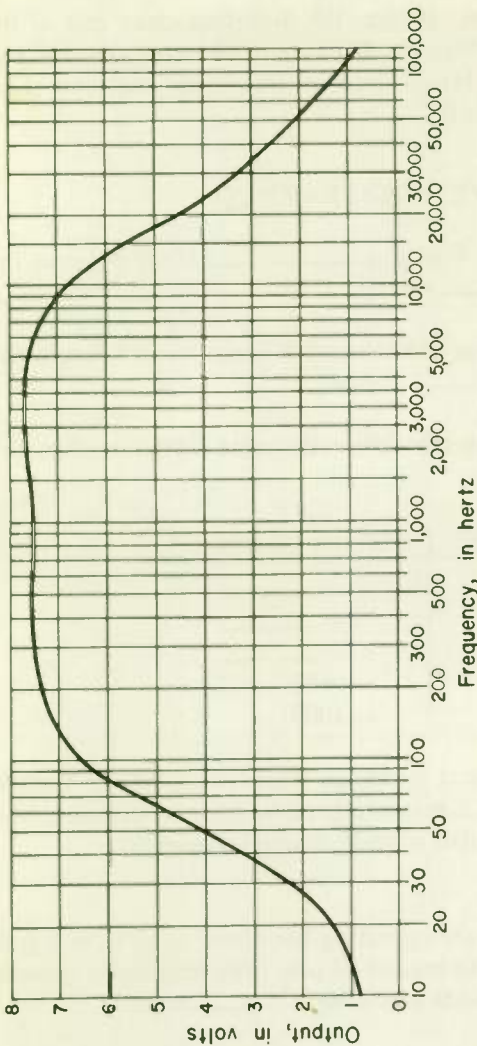

Fig. 10 Frequency response in a typical RC-coupled amplifier.
Figure 10, which shows the frequency response of an amplifier, is another example of a curve plotted on semilogarithmic graph paper. At low audio frequencies a change in frequency of only a few hertz will cause a noticeable change in the amplifier output voltage. The logarithmic scale used expands the low-frequency part of the graph so that the change in output voltage with a small change in frequency can be read clearly. Thus the graph shows that increasing the frequency from 30 to 50 Hz (a change of 20 Hz) increases the output voltage from 2.3 to 4 V. At high audio frequencies a frequency change of 20 Hz is not enough to have any notice-
able effect on the output voltage. Hence, the high-frequency end of the scale can be compressed, as in Fig. 10. Because of the compression you can't read a change of only 20 Hz at the high-frequency end, and there would be no advantage if you could.
7. Refer to Fig. 10. The frequency scale is (a) *(linear)* *(nonlinear)* because the values of frequency increase at an (b) *(even)* *(uneven)* rate.
8. Refer to Fig. 10. The output voltage is (a) _____ volts at 50 Hz,